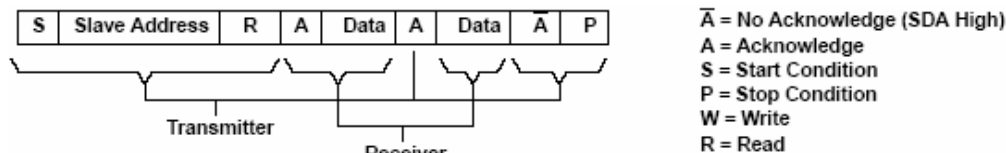
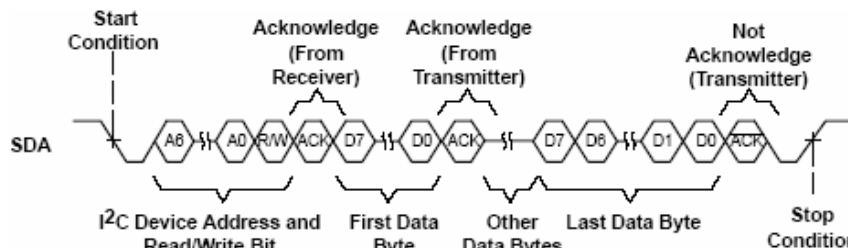

Figure 29. I²C Read Cycle
Figure 30. Multiple Byte Read Transfer
During a read cycle, the slave receiver will acknowledge the initial address byte if it decodes the address as its address. Following this initial acknowledge by the slave, the master device becomes a receiver and acknowledges data bytes sent by the slave. When the master has received all of the requested data bytes from the slave, the not acknowledge (A) condition is initiated by the master by keeping the SDA signal high just before it asserts the stop (P) condition. This sequence terminates a read cycle as shown in Figure 29 and Figure 30. See Example – Reading from the SN75DP139 section for more information.
The SN75DP139 operates using a multiple byte transfer protocol similar to Figure 30. The internal memory of the SN75DP139 contains the phrase “DP-HDMI ADAPTOR<EOT>” converted to ASCII characters. The internal memory address registers and the value of each can be found in Table 3.